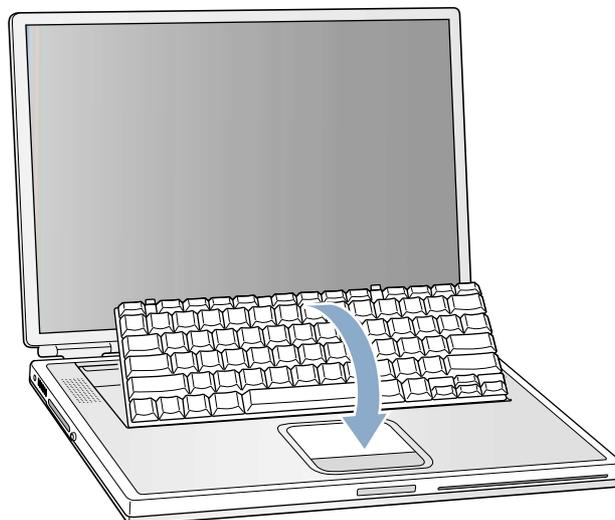

Figure 4
10. Flip the keyboard over and lay it on the palm rests and trackpad (**Figure 4**).